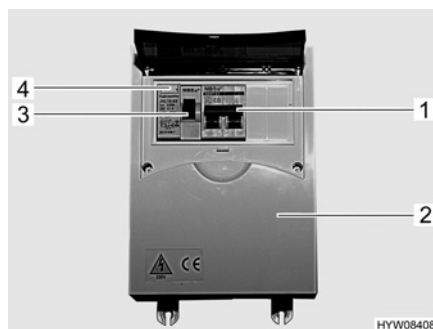

Fig. 73 240 V fuse box with safety cut-out and FI-switch
- Switch off the safety cut-out (Fig. 73,1) in the fuse box (Fig. 73,2).
- When the vehicle is connected to the 240 V supply, press the test button (Fig. 73,4) of the fault current protection switch (FI-switch) (Fig. 73,3) in the fuse box (Fig. 73,2). The fault current protection switch must trip.